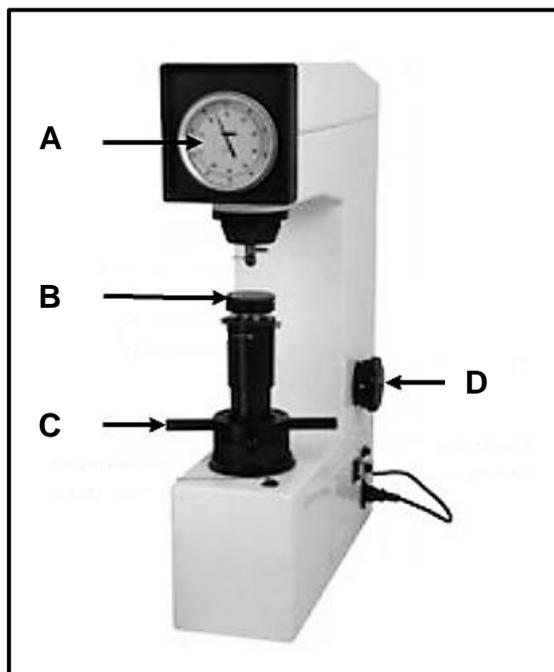

FIGURE 7.2
7.2 FIGURE 7.2 below shows a Rockwell hardness tester. Label **A–D**.